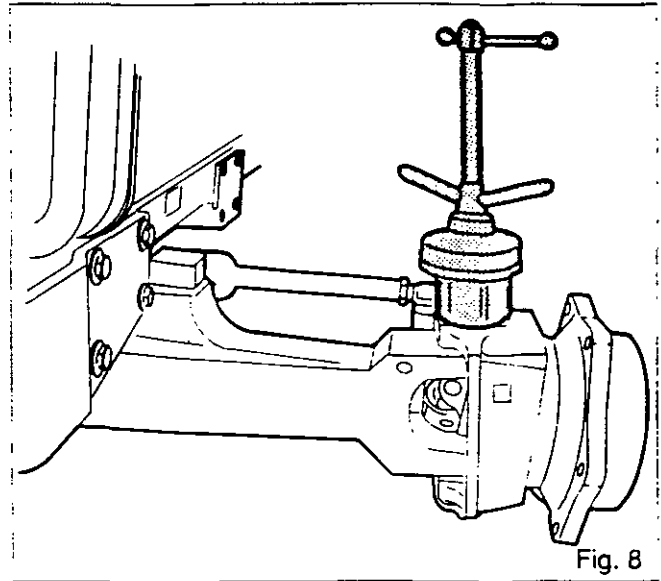

Fig. 8
53. Remove the screws (1), cover (2), shims (3) and the bearing cup (4). Extract the swivel pin (17) with tools MF 195C and MF451 (Fig. 8).
54. Remove the screws (1), cover (15) and the bearing cup (14). Extract the swivel pin (11) as described above for the upper swivel pin (Fig. 8).